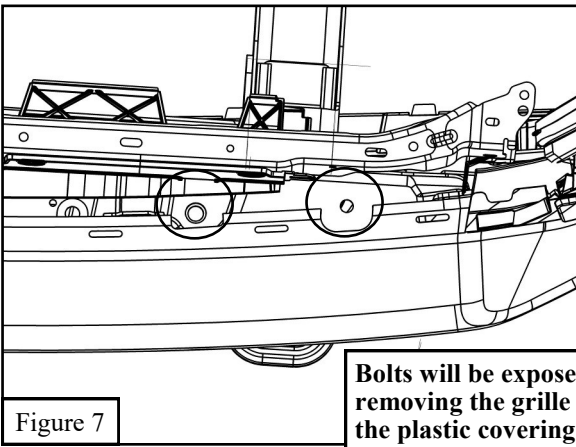

Figure 7
10. Remove the 4 upper bumper bolts attaching the bumper to the frame and remove the 2 bottom bolts attaching bumper arm to the frame. See **Figure 7 and 8** for reference.